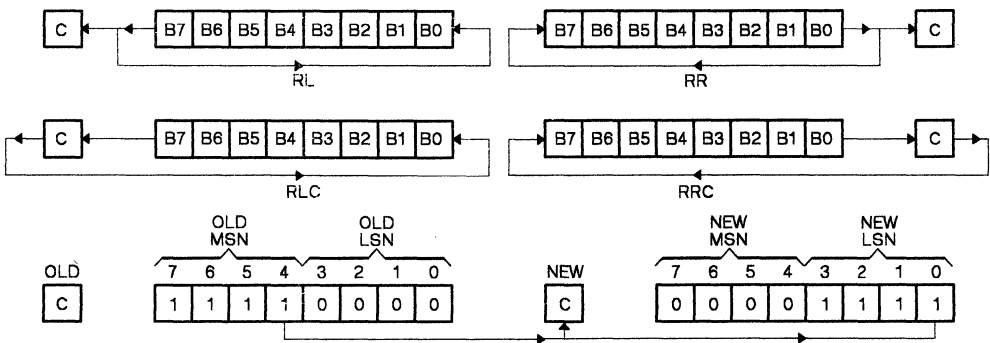

Figure 9-11. Swap and Rotation Operations
Figure 9-11 illustrates the rotation operations performed by the four rotation instructions Rotate Right (RR), Rotate Right Through Carry (RRC), Rotate Left (RL), and Rotate Left Through Carry (RLC), and the SWAP instruction. SWAP executes the equivalent of four consecutive RL instructions, setting the C bit in the Status Register equal to bit 4 of the original operand or bit 0 (LSb) of the result.